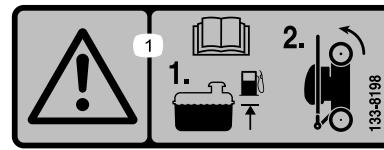

Figure 20
1. Ensure that the level of fuel in the fuel tank is no higher than what is recommended by the engine manufacturer; refer to the engine manufacturer's decal on the engine (Figure 20).